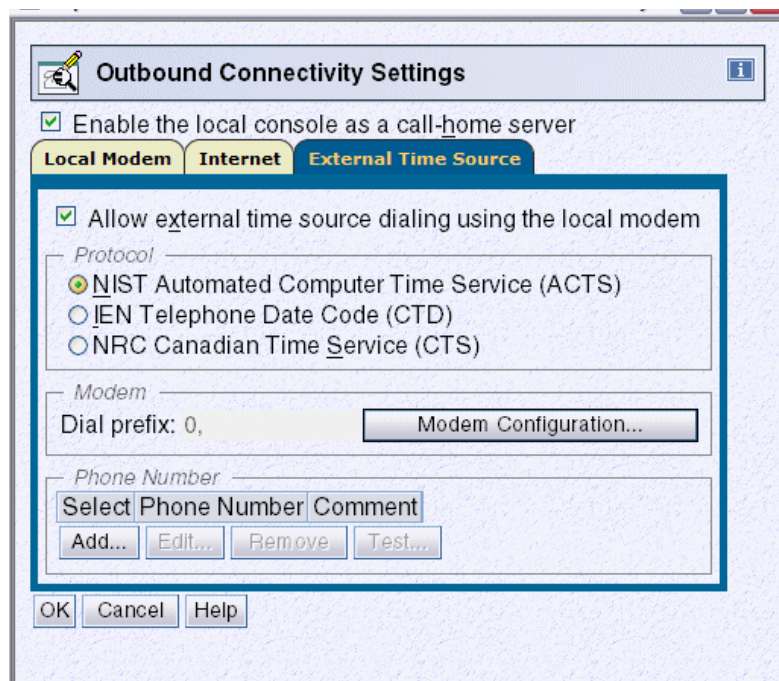

Figure 1-58 Outbound Connectivity Setting - External Time Source
2. After clicking **Configure**, the Outbound Connectivity Setting window displays (Figure 1-58).